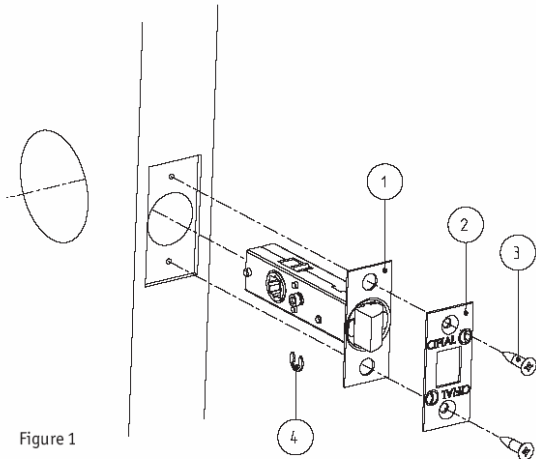

Figure 1
1. Remove C-clip [4] from the latch on the side which receive the privacy pin (inside of room to be locked). Insert latch [1] into 1 inch edge bore. Place face plate [2] over latch bolt and secure with 2 wood screws [3], as shown on figure 1.